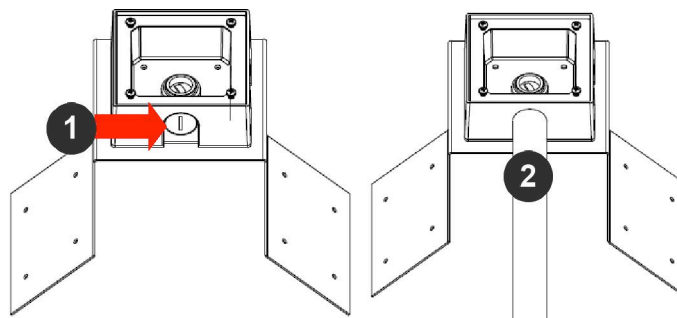

Figure 1: Attach conduit to SV-JBA junction box adapter
3. Attach the Junction Box Adapter to the Corner Mount Adapter as shown in Figure 1.
4. Remove the conduit plug on the junction box adapter and connect  $\frac{3}{4}$ " NPT conduit to the junction box adapter as shown in Figure 1.